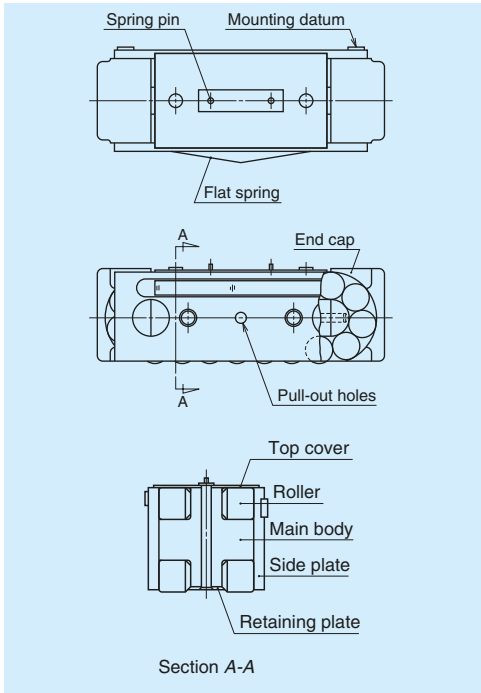

Fig. 1 Roller pack
A roller pack comprises a main body which supports load from the guide way block via two rows of rollers, an end cap which changes the direction of the re-circulation of rollers at the end of the main body, and a side plate which guides the rollers (**Fig. 1**). Roller packs are a type of linear rolling guide, where rollers are allowed to re-circulate infinitely.
- In case of heavy load, the roller pack can not be pulled out by the above method. Hook a tool to the pull-out hole (**Fig. 1**) on the side plate of the roller pack, and pull out the roller pack.